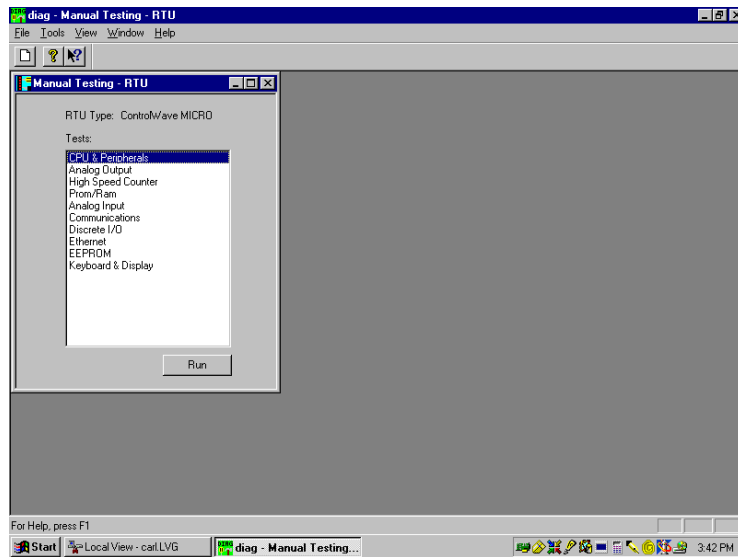

Figure 5-12. WINDIAG Main Diagnostics Menu
2. Select **Start > Programs > OpenBSI Tools > Common Tools > Diagnostics**. The Main Diagnostics menu (*Figure 5-12*) displays.
Using WINDIAG, you can test all Micro modules with the exception of the PSSM. WINDIAG's Main Diagnostics Menu (see *Figure 5-12*) provides the following diagnostic selections: